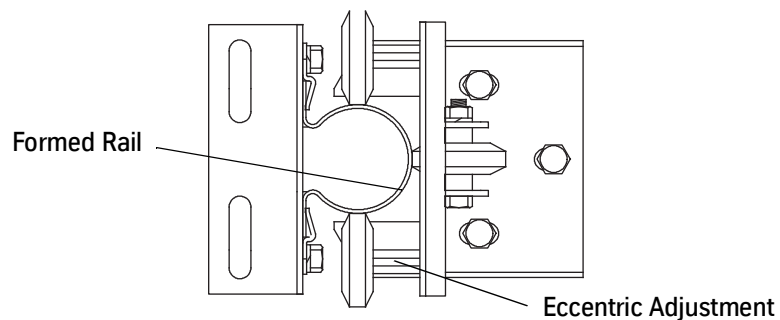

Figure 11 - C12 & C7 Formed Rail Guide Shoe Assembly, 454BR
2. With the counterweight frame centered and in-line with the counterweight guide rails, square the guide shoe assembly to the counterweight frame. See Figure 11.